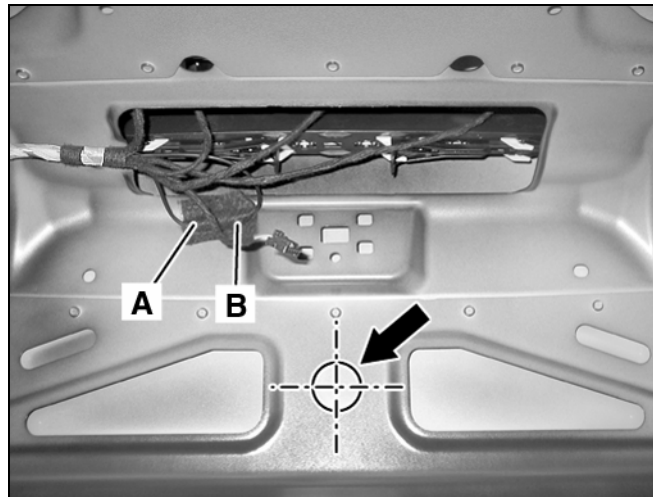

Figure 4
- Peel back felt tape from underside of trunk lid to locate antenna connectors (A, B, Figure 4) and roll back foam sleeve on connectors.
- Connect the vehicle leads (A, B, Figure 4) to the connectors on the SDAR antenna cables (A, figure 5) and secure connection with plastic clips (attached to vehicle antenna leads). Roll back felt tape over connectors.